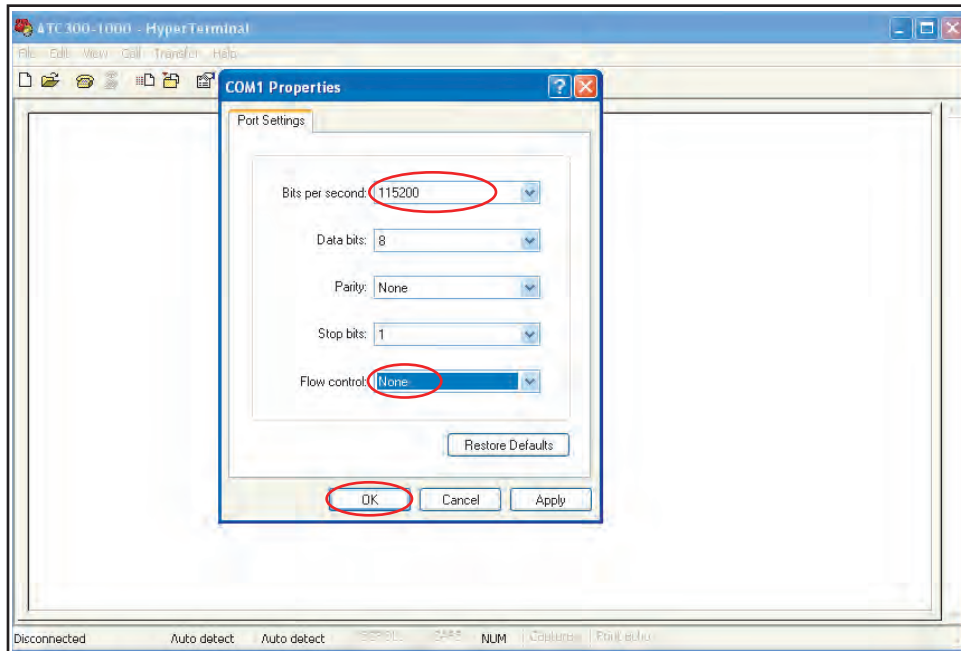

Figure 5-5. Setting The COM1 Properties.
8. On the **COM1 Properties** window select **115200** from the **Bits per second** drop down menu. Select **None** from the **Flow control** drop down menu (Figure 5-5).
9. Click **OK** (Figure 5-5).